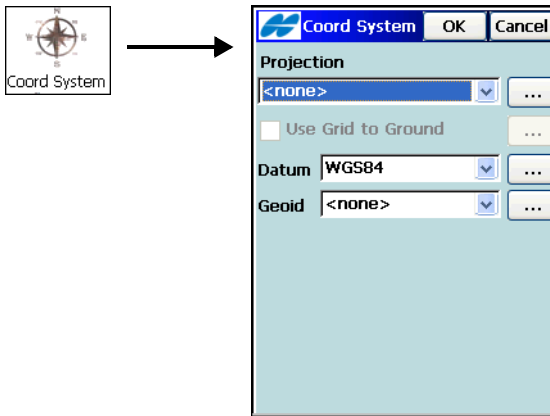

Figure 3-70. Coordinate System
To set coordinate system parameters for the job, tap the *Coord System* icon. The ***Coord System*** screen displays coordinate system information for the job (Figure 3-70 on page 3-74).
- **OK** – saves the changes and returns to the **Coord System** screen (Figure 3-70).